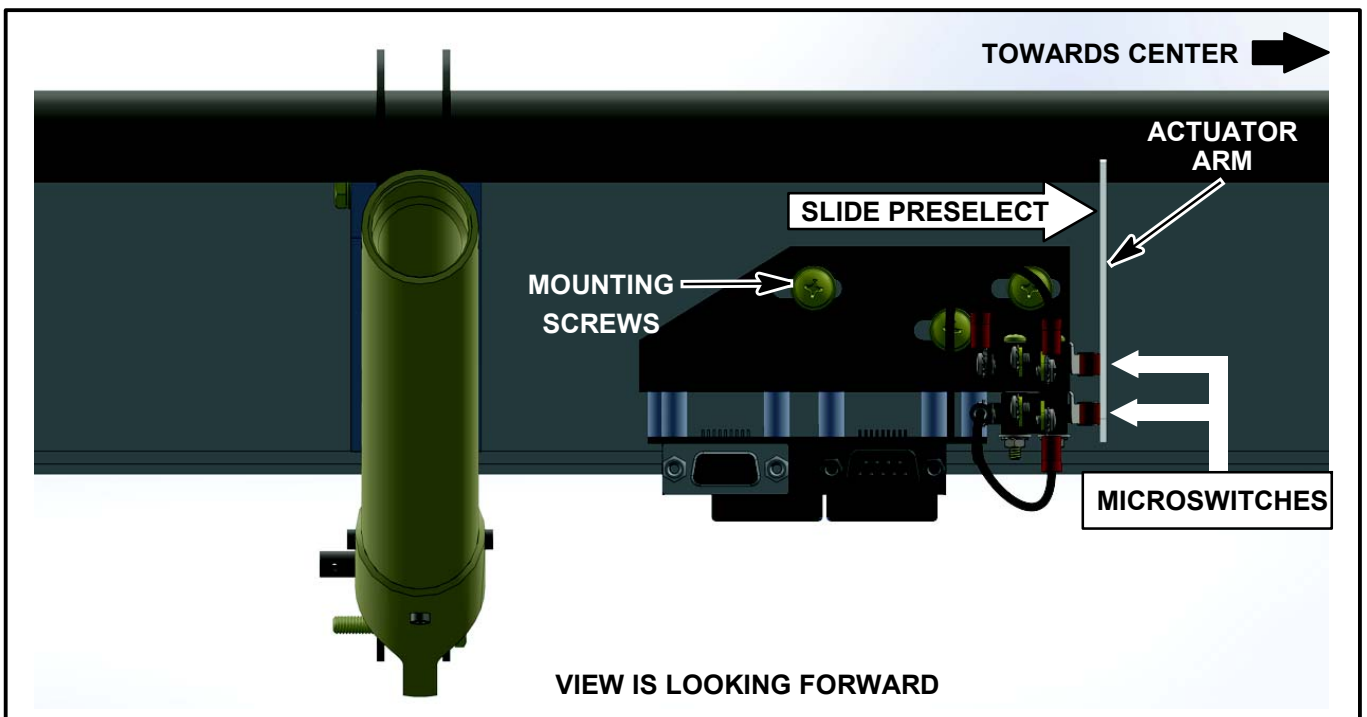

Figure SIM20-142-02 - FLAP PRESELECT
- 1.4. Loosen the 3 mounting screws, washers and nuts mounting the assembly. (Refer to Figure SIM20-142-02.)